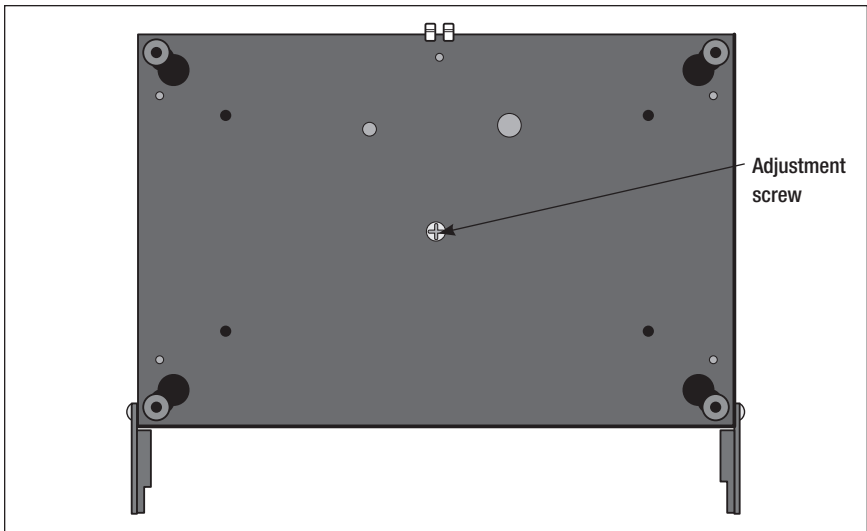

Figure 8. Adjustment screw location
4. Press the activation button connected in the previous section to start the action. The corral doors will drop down, allowing the horse figures to enter or exit the car. Regulate the speed of the horses by adjusting the voltage or by turning the adjustment screw centered on the bottom of the corral. See Figure 8.